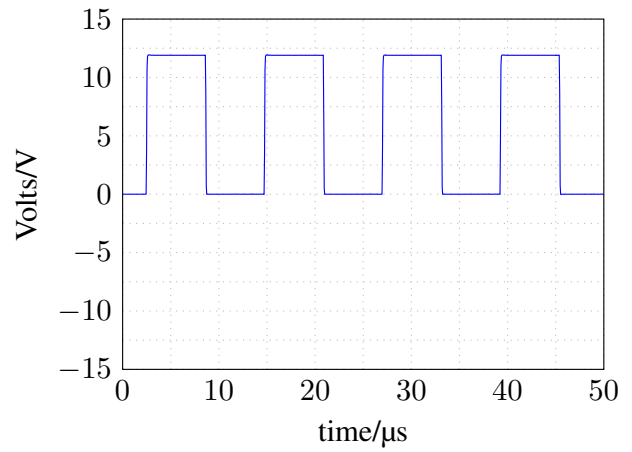

Fig. 29: PWM signal observed on PWM-L with header MIX-L bridged. The duty cycle should be close to 50%.
2. Connect the oscilloscope probe to **PWM-L**. A rectangular waveform between 0 V and ~12 V at a frequency of ~80 kHz should be observed with a duty cycle of about 50% (Fig. 29).